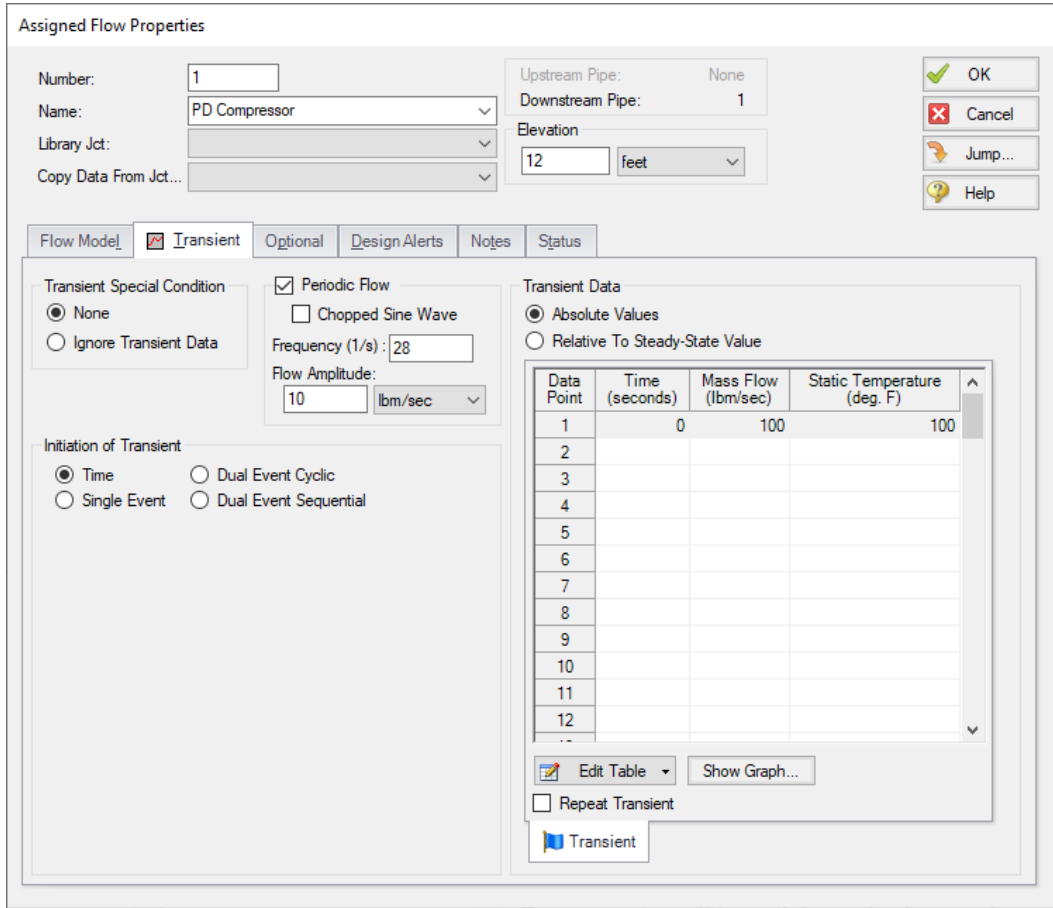

Figure 6.6 Assigned Flow Properties window with Periodic Flow transient applied
7. Check the box next to Periodic Flow. Define the Frequency as 28 1/s and the Flow Amplitude as 10 lbm/sec (Figure 6.6).